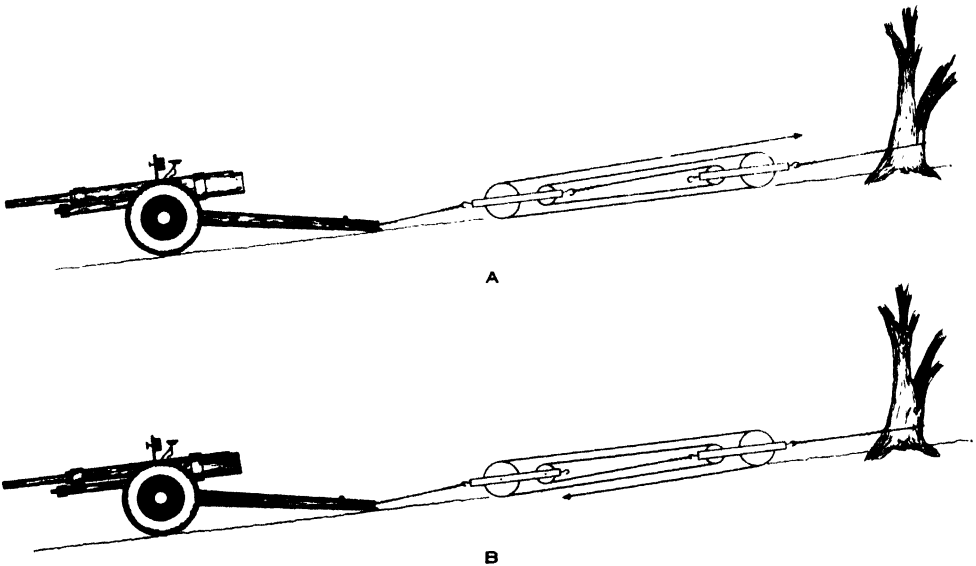

FIG. 91. BLOCK AND TACKLE PROBLEMS.
4. Which of the pulley arrangements in Fig. 91 will require the least effort to pull the gun up hill? Arrangement *a*) or *b*)?.....